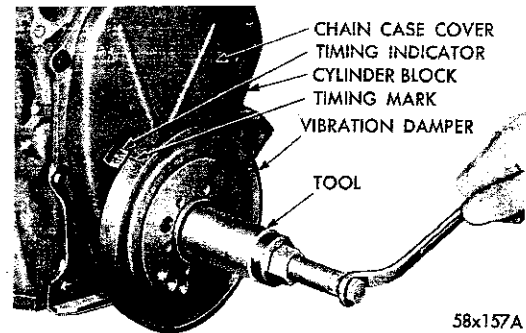

Fig. 28—Installing Vibration Damper Assembly
- (1) Place the damper hub key in the slot in the crankshaft, and slide the vibration damper on the crankshaft.
- (2) Place the installing tool, part of puller set Tool C-3688 in position and press the damper on the crankshaft (Fig. 28).